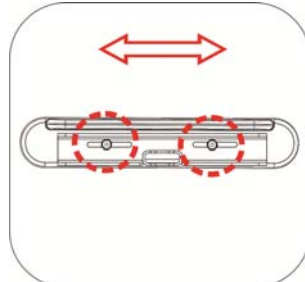

Figure 5-56
5.3.4.2.5 Use the #3 Allen Key Wrench to loosen the screws under the armrest pad. Adjust the armrest pad forwards or backwards. Re-tighten the screws. (Figure 5-56)